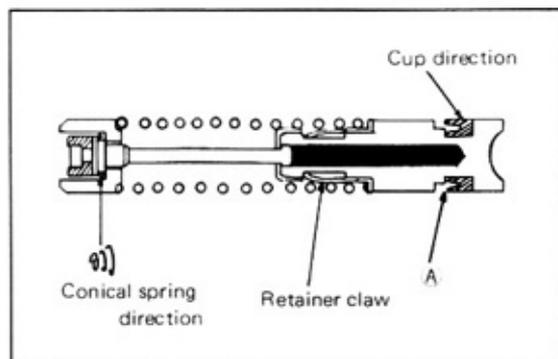

Fig. 1-16 Assembling Piston
1. Assemble the piston as Fig. 1-16